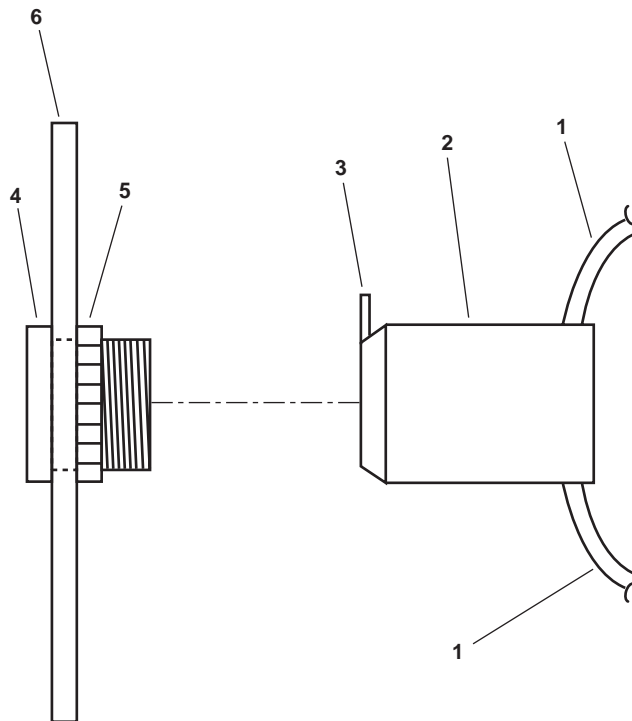

Figure 5. Pushbutton Switch Replacement
2. Label and disconnect the wiring (figure 5, item 1) from the contactor (figure 5, item 2).
3. Lift the locking tab (figure 5, item 3) slightly and pull the contactor (figure 5, item 2) off the pushbutton switch (figure 5, item 4).
4. Remove the retaining nut (figure 5, item 5) that secures the pushbutton switch (figure 5, item 4) to the door (figure 5, item 6) and remove the pushbutton switch.
1. Install the pushbutton switch (figure 5, item 4) in the door (figure 5, item 6) and secure it with the retaining nut (figure 5, item 5).
2. Snap the contactor (figure 5, item 2) into place on the pushbutton switch (figure 5, item 4) with the locking tab (figure 5, item 3) facing upward.
3. Connect the wiring (figure 5, item 1) to the contactor (figure 5, item 2) using the labels from step 2 of Removal as a guide. Remove the labels.